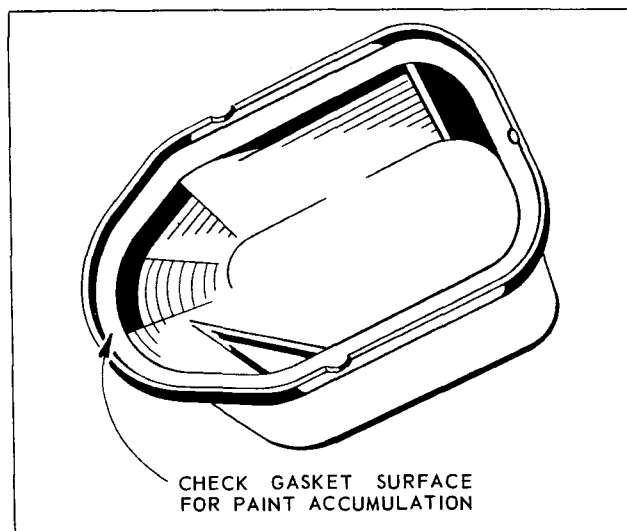

Fig. 15
ROCKER ARM COVERS (Fig. 15)
1. Check gasket face surface of rocker arm cover, at the rounded end, for paint accumulation, *see Fig. 15*. Scrape off any paint that forms a hump. Smooth scraped area with emery cloth or steel wool.